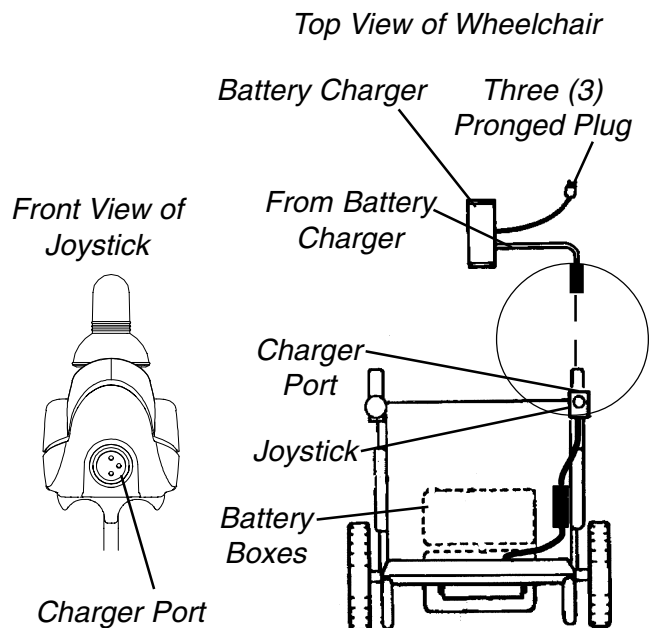

FIGURE 8 - CHARGING BATTERIES
## CHARGING BATTERIES (FIGURE 8)
**Wheelchairs Equipped With MCC-Mark IV Joystick (Detail "A" of FIGURE 8)**
**Wheelchairs Equipped With Mark IV RII Joystick (Detail "B" of FIGURE 8)**